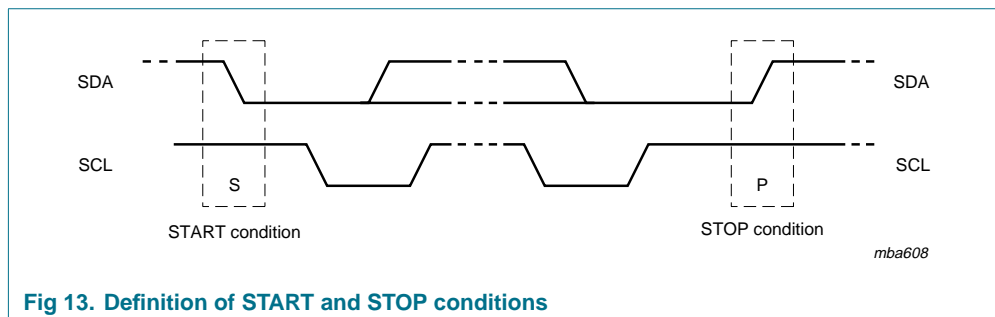

Fig 13. Definition of START and STOP conditions
Both data and clock lines remain HIGH when the bus is not busy. A HIGH-to-LOW transition of the data line while the clock is HIGH is defined as the START condition (S). A LOW-to-HIGH transition of the data line while the clock is HIGH is defined as the STOP condition (P) (see Figure 13.)